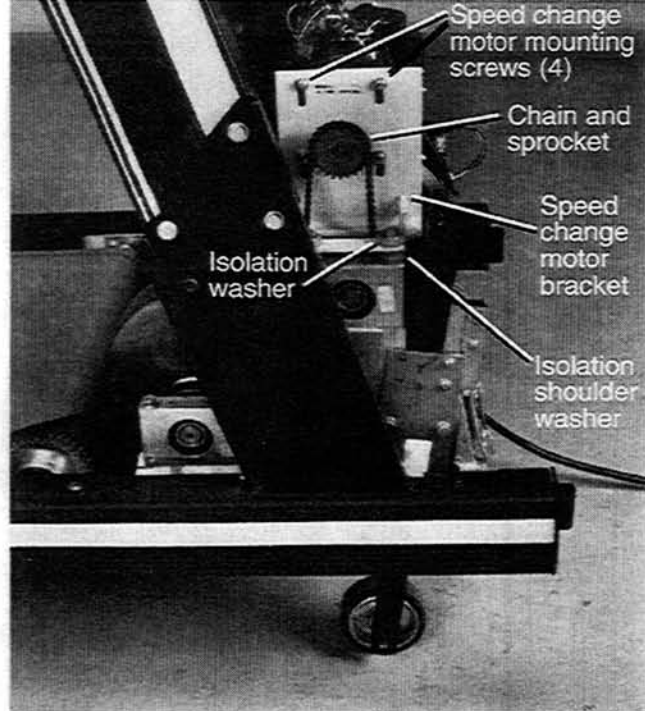

Figure 3-14. Speed Change Motor Mounting
3. Loosen the four screws and washers that hold the speed change motor to the bracket (Figure 3-14 on page 3-8).
6. Loosen, *but do not remove*, the four screws that hold the speed change motor to the bracket (Figure 3-14).